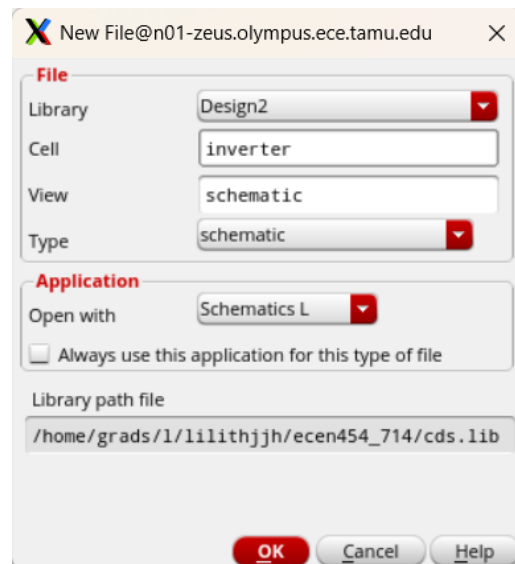

Figure 1. Creating a new schematic cell view of inverter
- In the Library Manager window, create another library named “Design2”, and do the same steps as in lab 1. Choose “Attach to an existing technology library” and click OK. Then choose “gdpk045”. Then File > New > Cell View. Create a cell named "inverter" in the “Design2” library with its "schematic" view as seen in Figure 1.